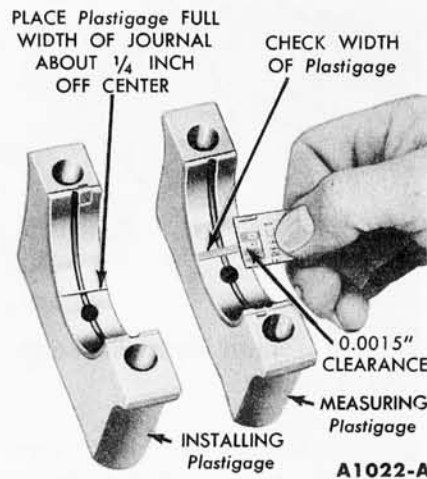

FIG. 58—Installing and Measuring Plastigage—Engine In Chassis
9. Place a piece of Plastigage on the bearing surface the full width of the bearing cap and about 1/4 inch off center (Fig. 58).